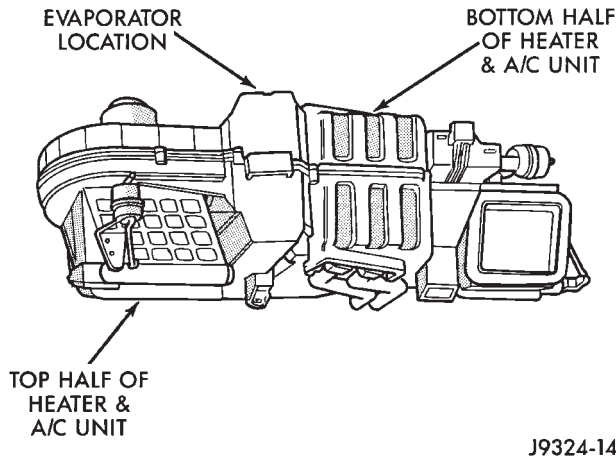

Fig. 57 Evaporator Coil Location in Heater-A/C Housing (Upside Down)
(1) Remove the heater-A/C housing from the vehicle, and disassemble the housing halves. See Heater-A/C Housing in the Removal and Installation section of this group for the procedures.
(2) Lift the evaporator coil out of the heater-A/C housing (Fig. 57).